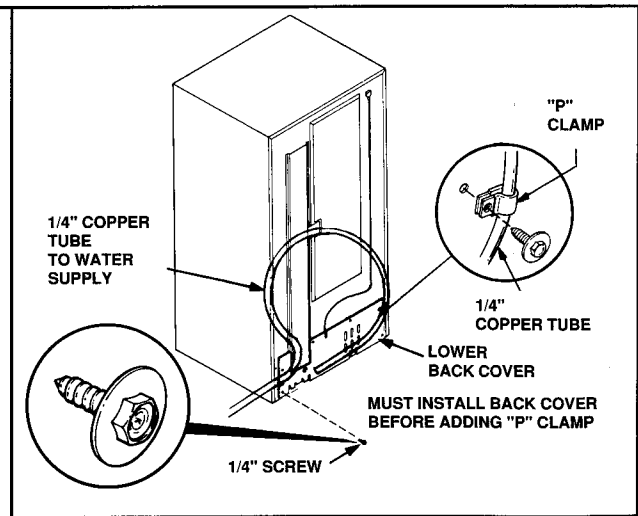

Figure 30
10. When you are confident that no leaks exist or after correcting any apparent leaks, install lower cover on back of refrigerator. Clamp copper tube to back of unit using "P" clamp provided in kit and upper right attaching screw of lower cover. Using extreme care to avoid kinks, put a service loop in copper tube as shown in Figure 30.